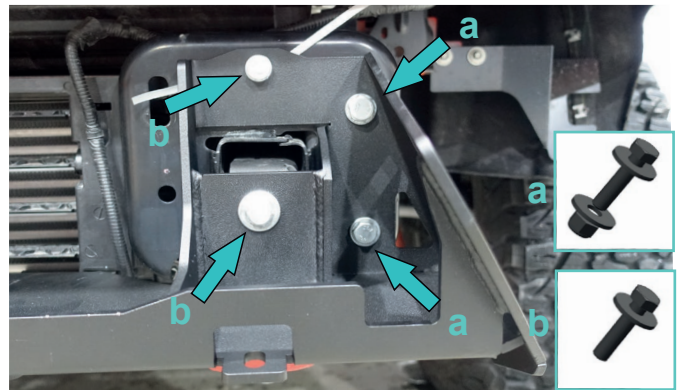

Fig.32
32. Install winch bracket (item 17) and fix it using:
b) bolts M10x35 and penny washers 10 (item A, O) (fig.32).